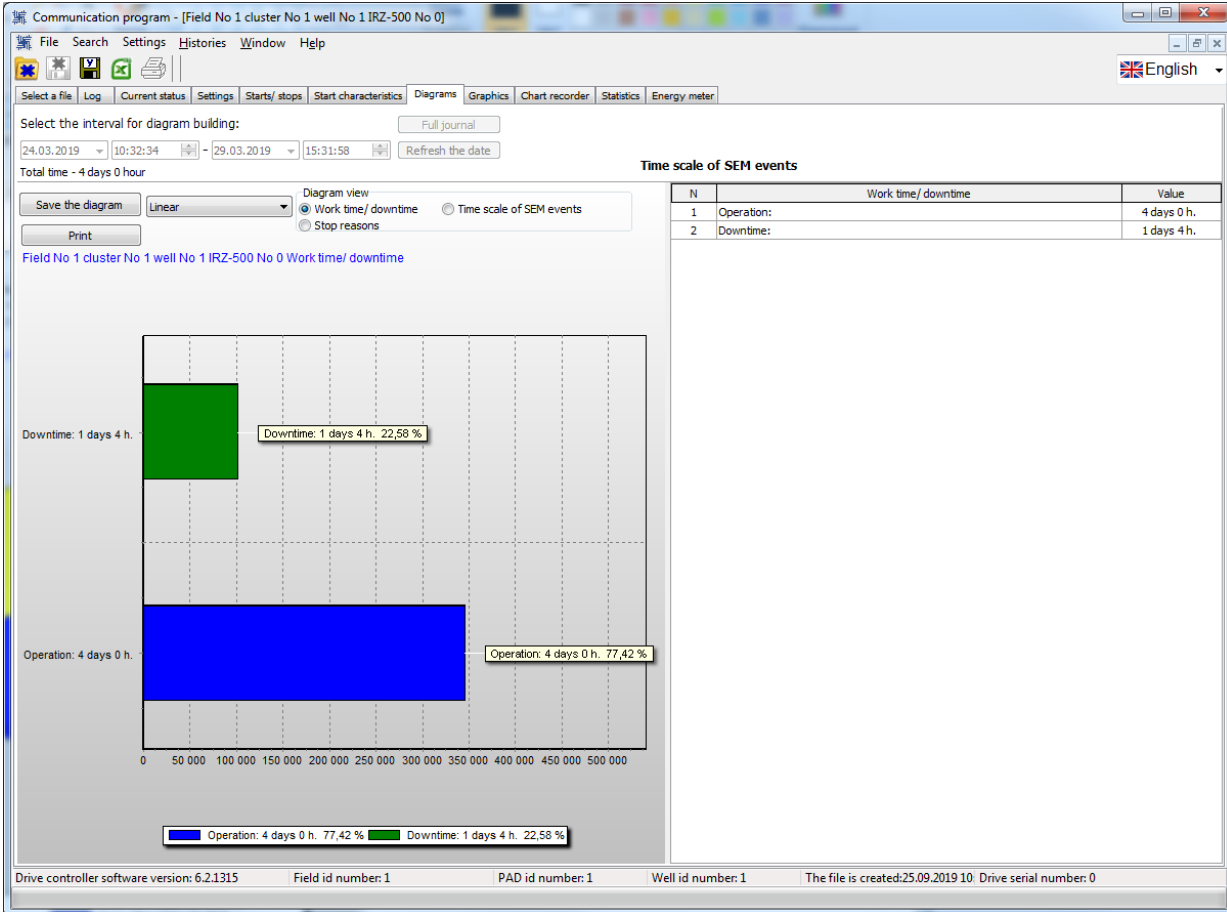

Fig. 30
- Bar Diagram (see Fig. 30, 31). A bar-type drive work time/downtime diagram is shown in Fig. 30, whereas a bar-type drive stop reason diagram is shown in Fig. 31.